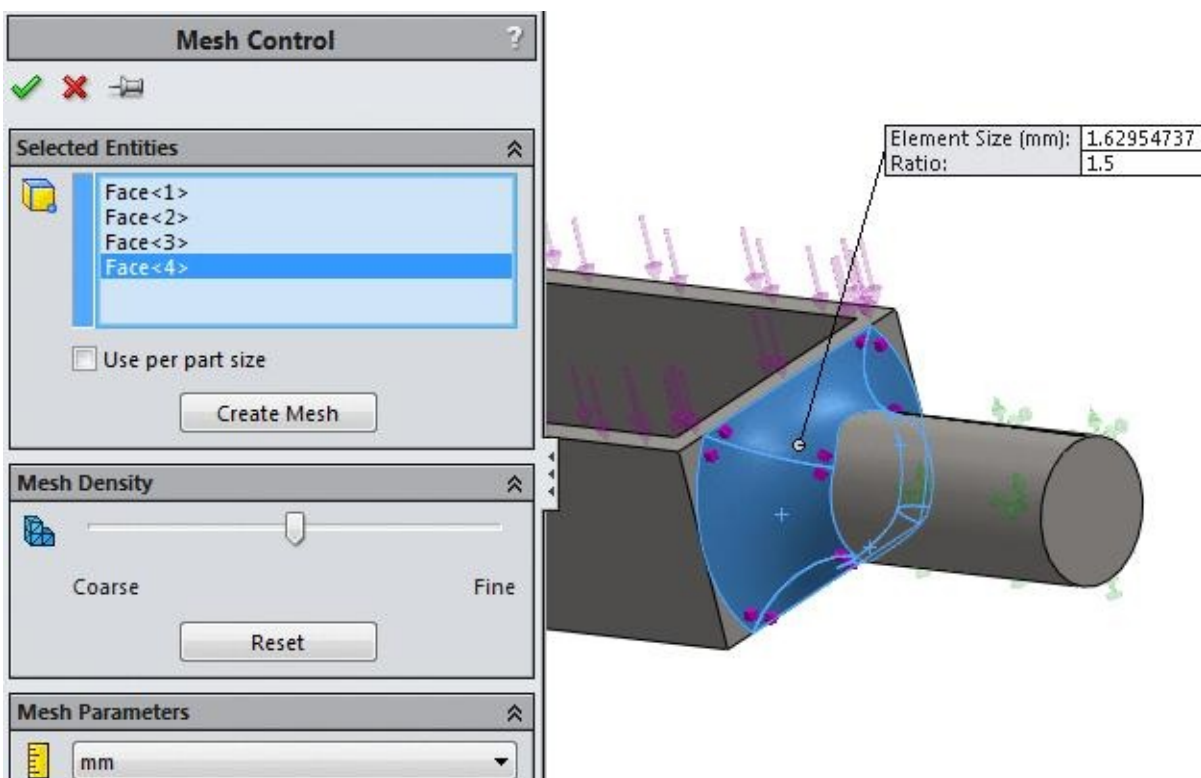

Figure-17. Faces for changing mesh size
- Select the faces of the model for which you want to change the mesh elements sizes; refer to Figure-17.